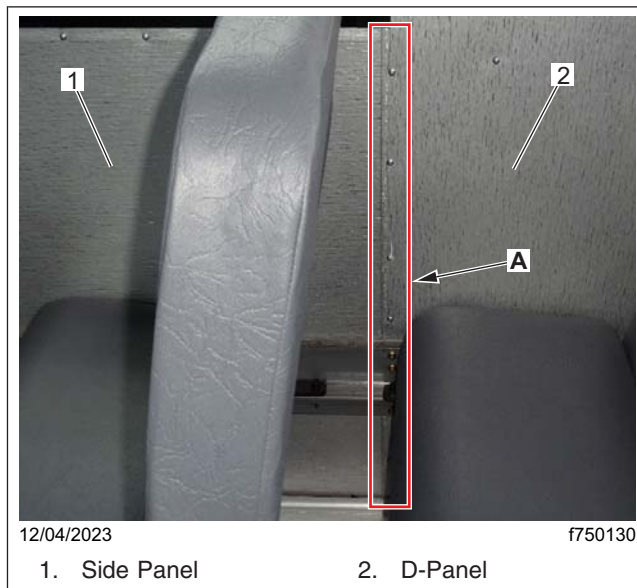

Fig. 2, Location of the Lap Joint
5. To identify the correct installation location for the new fasteners, locate the rear interior joint formed when the D-panel overlaps with the side-sheet at the last rafter as shown in **Fig. 2**, and mark the fastener locations as follows.